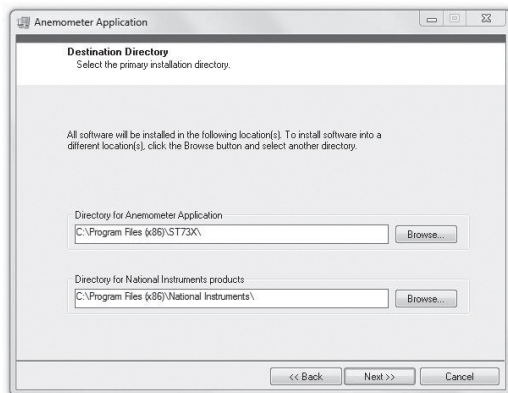

Fig. 9. The initial software installation screen
2. Double-click the icon "Run setup.exe", or the icon representing the disc to initiate AutoPlay. The screen shown in Fig. 9 will appear.